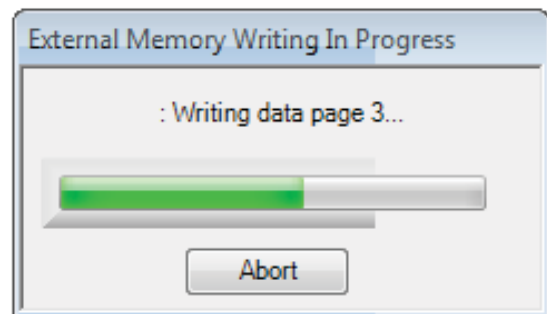

Figure 77. External Memory Write Operation Status Window
- 9. **SigmaStudio** begins the EEPROM write operation. This operation can take several minutes to complete (see Figure 77). When the status window disappears, the operation is complete.